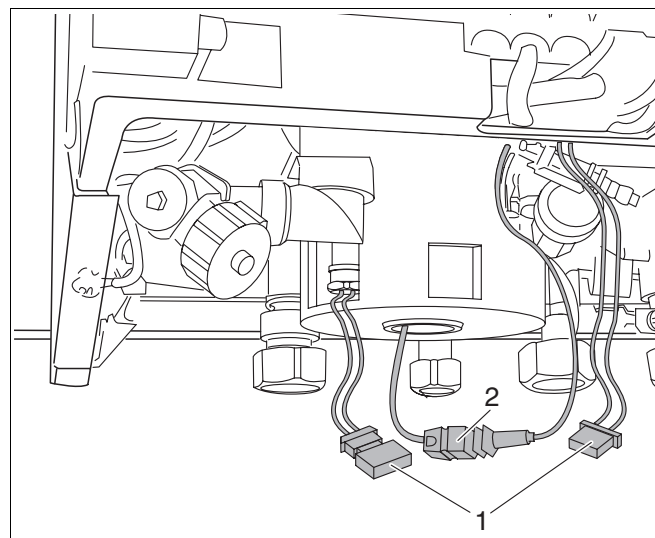

Fig. 73 Checking the hot water / boiler sensor
- Disconnect the plug-and-socket connection on the hot water sensor cable (fig. 73, item 1) and/or the boilersensor (fig. 73, item 2).